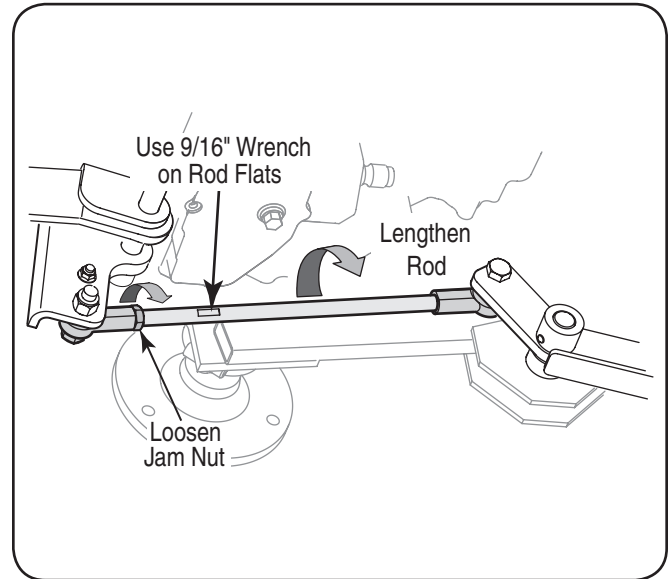

Figure 20
- Loosen the jam nut from against the ball joint on the rear of the rod assembly. See Figure 20.